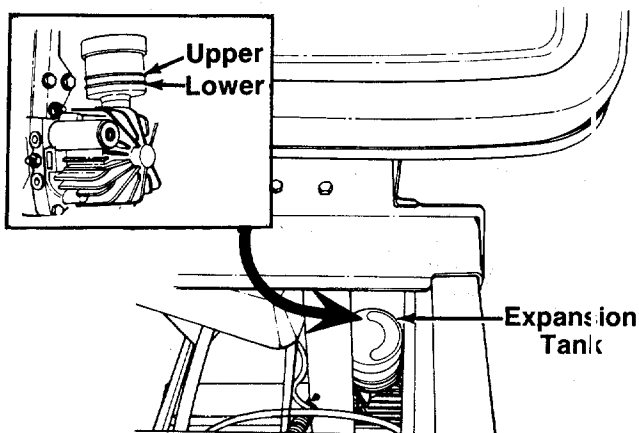

FIGURE 18.
The transmission fluid level should be checked prior to initial use. The level should not be above the LOWER mark which is about 1/4" from the bottom of the expansion tank. See figure 18. Overfilling reduces the expansion area in the expansion tank and fluid will spill at operating temperatures.
3. Check the fluid level in the expansion tank. See figure 18.